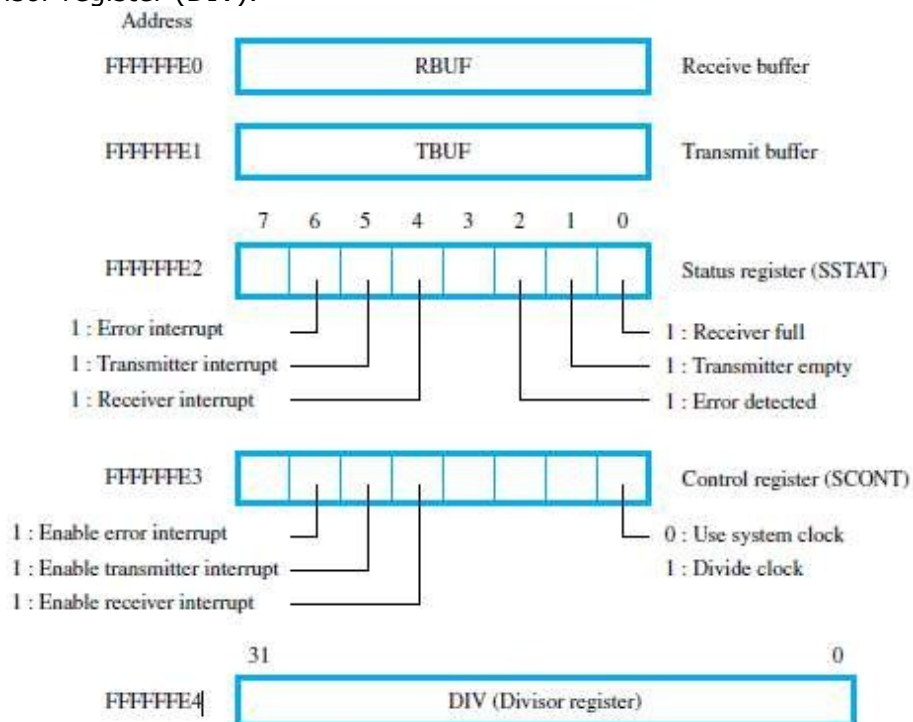

Figure 10.8 Serial interface registers.
- **Addressable Registers** are (Figure 10.8):